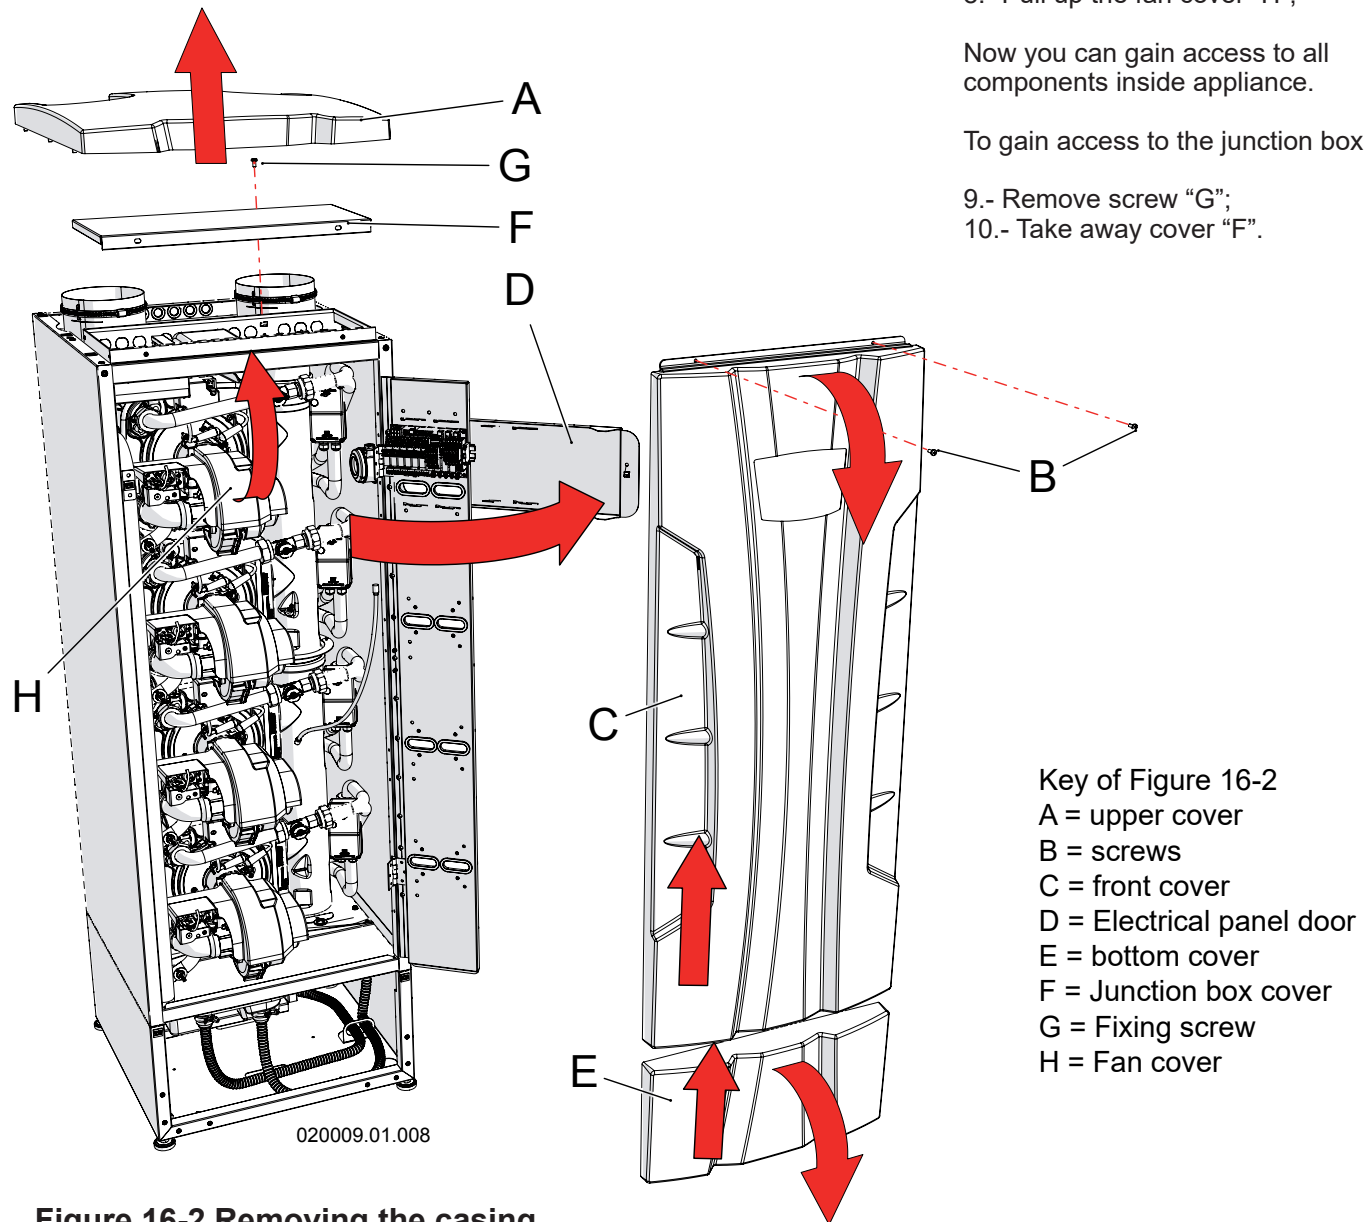

Figure 16-2 Removing the casing
In order to remove the casing, follow the steps below while referring to Figure 16-2:
- 1.- Follow the steps in Section 16.2 to remove cover "E" of Figure 16-2;